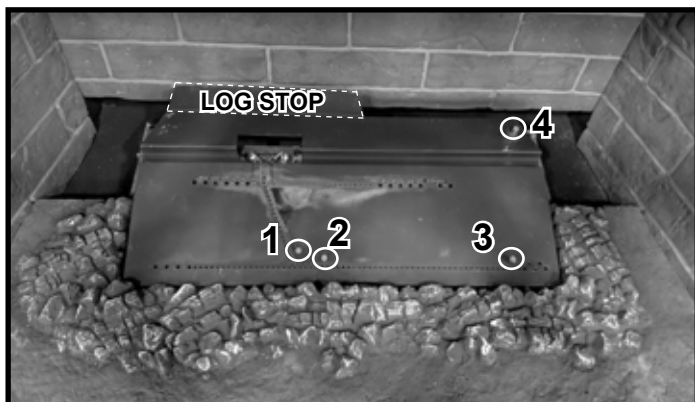

Figure 2 Locations for Log Pins
1. Reference the four log pins and the location of the log stop shown in Figure 2.
**Log #1:** Place Log #1 as shown in Figure 3. The right end touches Log Pin 4. Push the log back until it rests against the log stop shown in Figure 2.